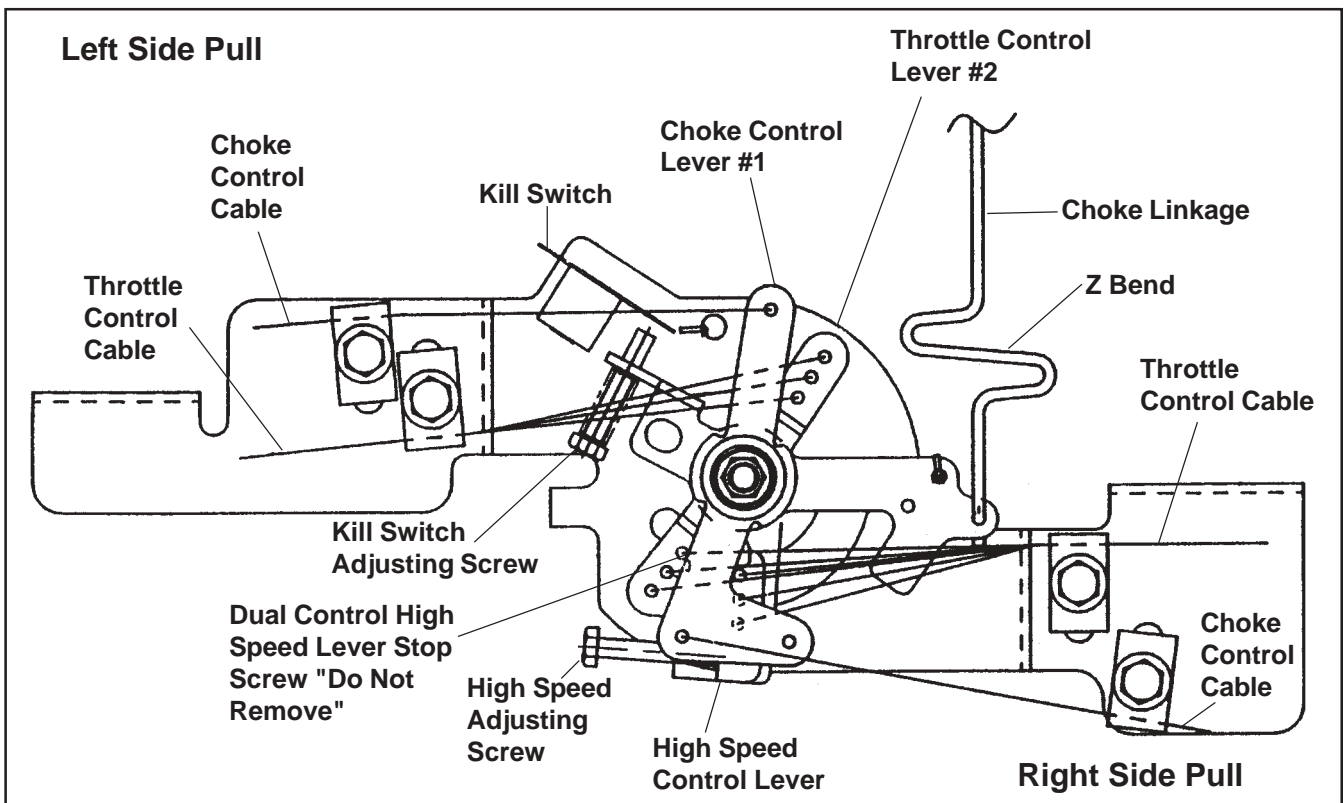

Figure 5-67. Governor Control Connections.
**High Speed (RPM) Adjustment** (Refer to Figures 5-67, 5-68, or 5-69.)